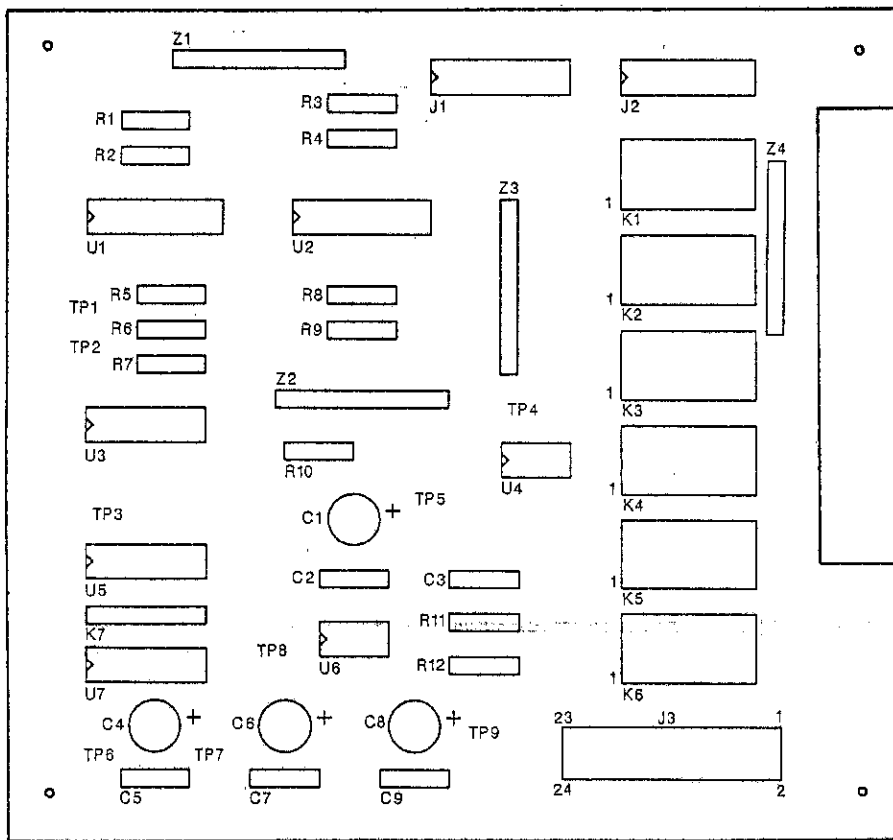

Figure 7-8. IEEE MATE/CIIL Self-Test CCA A4A3, Parts Location Diagram
2.4.5 Add table 7-18 replacement parts list and figure 7-8 as follows: